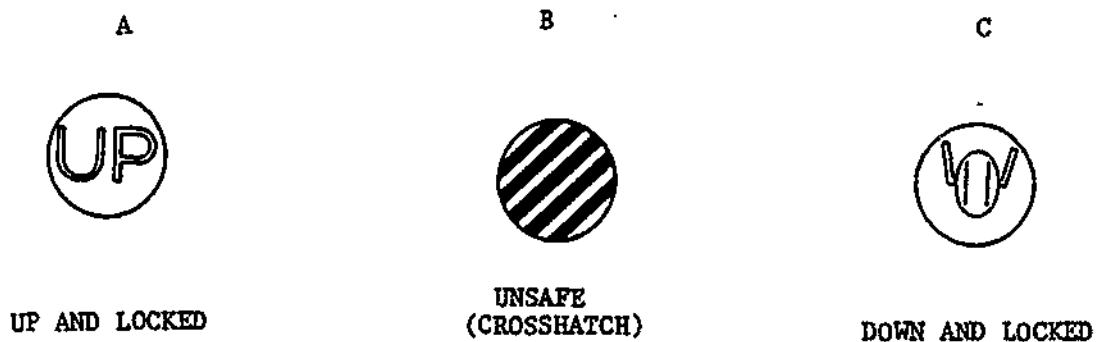

Figure 3.
With the development of the retractable landing gear, an indicating system was developed to indicate the position of the gear. This system was designed to display the three main positions of the gear. Figure 3 below shows the three displays. In drawing A the gear would be UP and locked, drawing B, the gear would be unsafe (crosshatch) and in drawing C the gear would be down and locked.
1. With the landing gear up and locked, which one of the symbols would show on the indicator? Use figure 3 if needed.